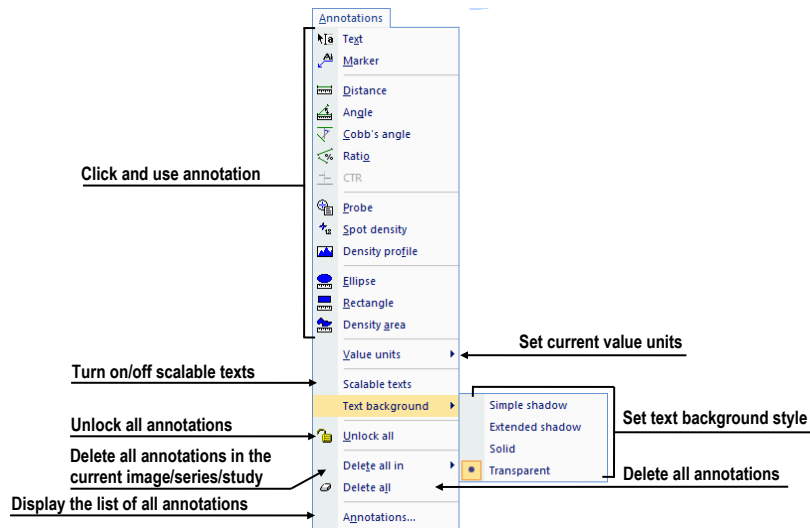

Figure 44 – Annotations menu
- **Annotations** – functions for annotation management in TomoCon. Creating various types of annotation and measurements in the current view and removing and editing selected annotations (see Figure 44).